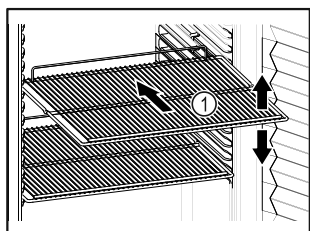

Fig. 57 Example illustration
- If there are adjustable shelves Fig. 57 (1), position them as required.